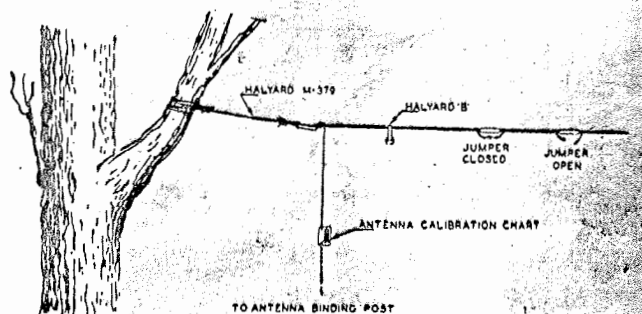

Figure 31. Antenna supports and connections.
c. Connect Antenna AT-101/GRC-9 to its support by means of Halyard M-379, as shown in figure 31. This length of antenna is shown with the calibration chart attached.